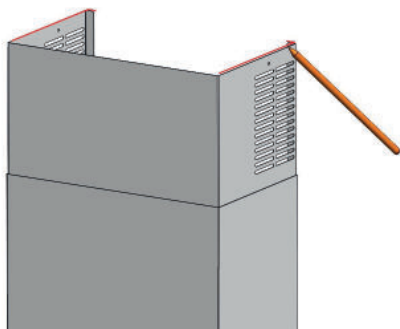

Fig.9
- › Lift the internal stainless steel chimney section to the chosen installation height. Use a pencil to mark the location (Fig.9).